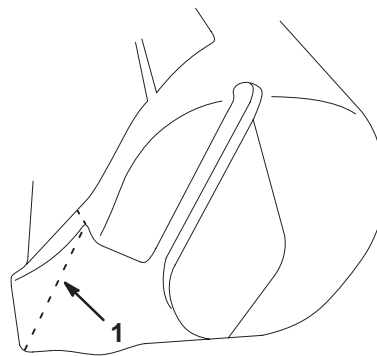

Figure 3
1. Locate and mark cut-off lines on each side of basket, as shown in Figure 3.